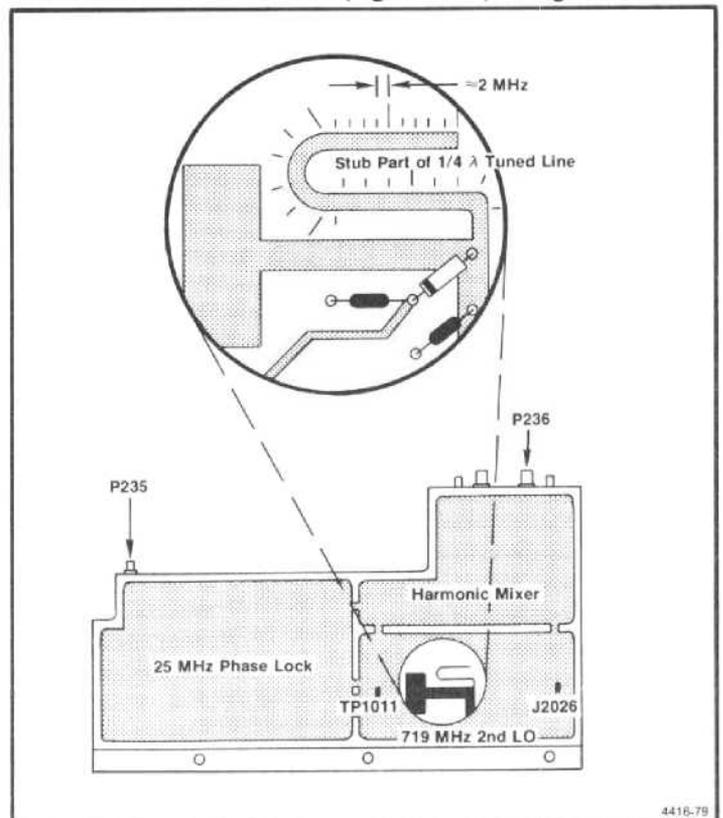

Figure 6-13. LO section of the 829 MHz converter showing test points and connectors.
- b. The 2nd LO range is 714.5 MHz to 723.5 MHz (with the cover off). 719 MHz is the optimum center frequency. Frequency of the oscillator is controlled by the Tune Volts from the 25 MHz Phase Lock circuit (located at TP1011) which varies from +5 V (low end) to +11.9 V (high end) with +6.75 to +7.5 V as the limits for operation at 719 MHz. Set the digital voltmeter to measure 12 V then connect it between TP1011 (Figure 6-13) and ground.
c. Disconnect the 100 MHz reference from the 3rd Converter by unplugging P235 (Figure 6-13). The oscillator should go to its upper limit and the voltmeter indicate about 11.9 V.
e. The 719 MHz oscillator frequency is a function of the length of the printed 1/4 wavelength transmission line. Minor adjustments to the oscillator frequency are made by shortening the U-shaped transmission line stub, off the main line. Graduation marks (see Figure 6-13) along the side of the stub provide a guide to calculate frequency correction. Each minor mark from the end or cut across the stub, represents an approximate change of 2 MHz.